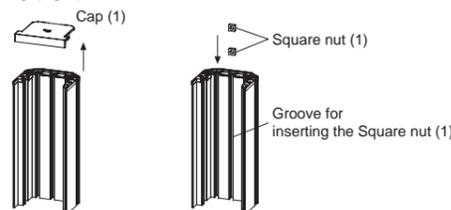

Fig. 2
- Remove the Cap (1) of the Floor mounting column and slide the included Nuts (1) in the groove of the Floor mounting column housing. (Fig. 2)